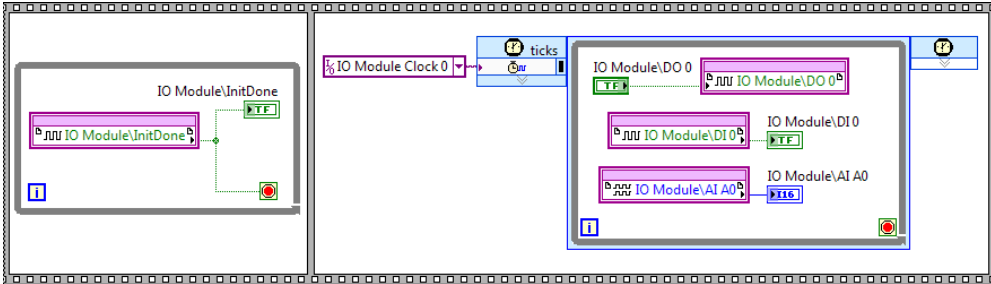

Figure 6. 5752 RW (FPGA).vi Block Diagram
13. Add a Timed Loop around the three, as shown in Figure 6.
18. Add a Flat Sequence Structure around the Timed Loop, as shown in Figure 6.
Your block diagram should now resemble the block diagram in Figure 6.